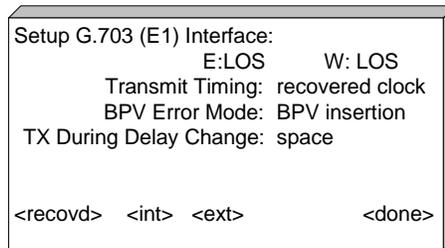

Figure 3.16 Setup G.703 (E1) Interface Screen
4. Select G.703 (E1) and press enter to display the **SETUP G.703 (E1) INTERFACE** screen (see Figure 3.16).